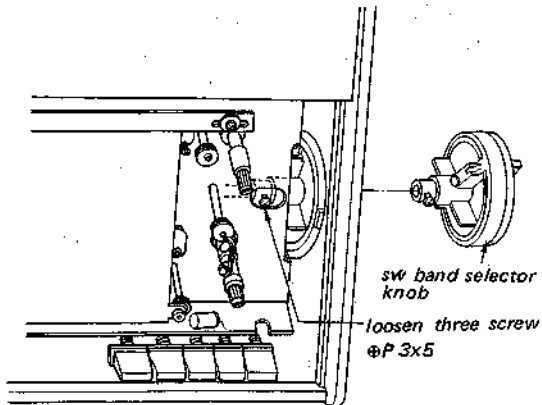

Fig. 2-5
10. Loosen the three screws and pull off the sw band selector knob as shown in Fig. 2-5.